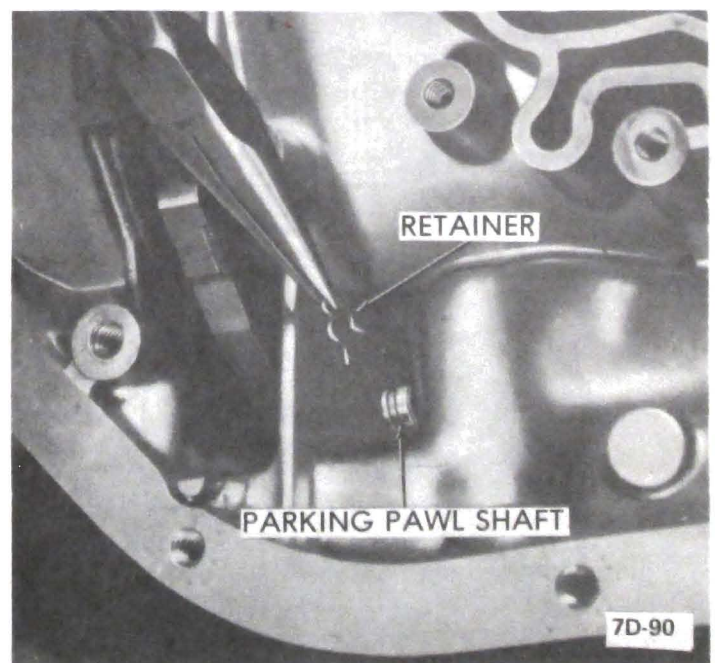

Figure 7D-43
h. Remove parking pawl shaft retainer. See Figure 7D-43.